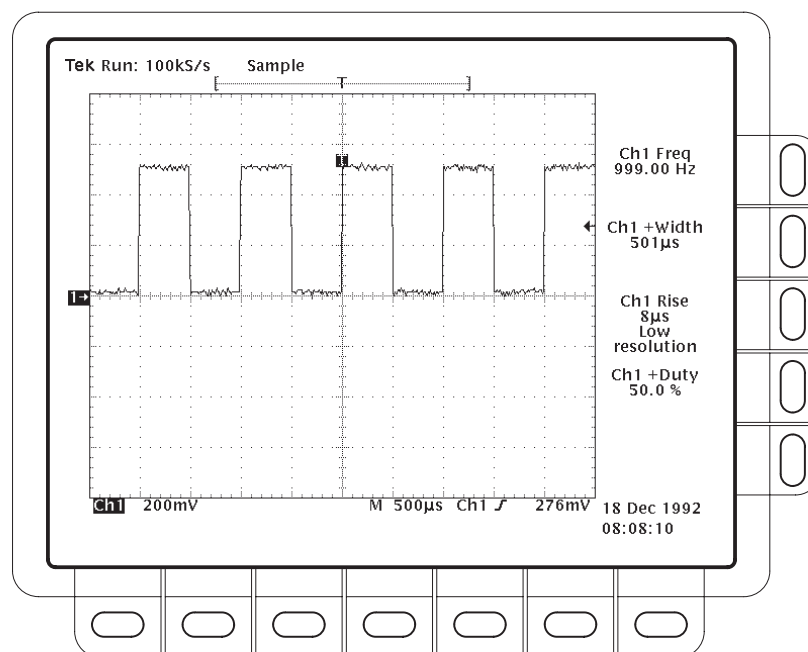

Figure 2-15: Four Simultaneous Measurement Readouts
8. To move the measurement readouts outside the graticule area, press **CLEAR MENU** (see Figure 2-15).